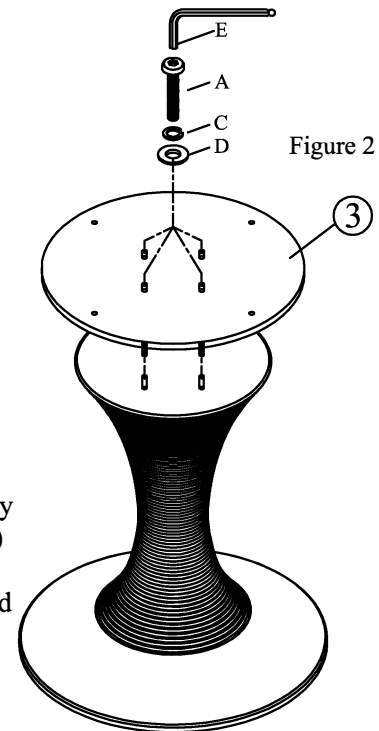

Figure 2
- STEP 2. Attach the bridge (3) to the leg assembly using bolt (A), lock washer (C), flat washer (D) and tighten them by allen key (E). See Figure 2